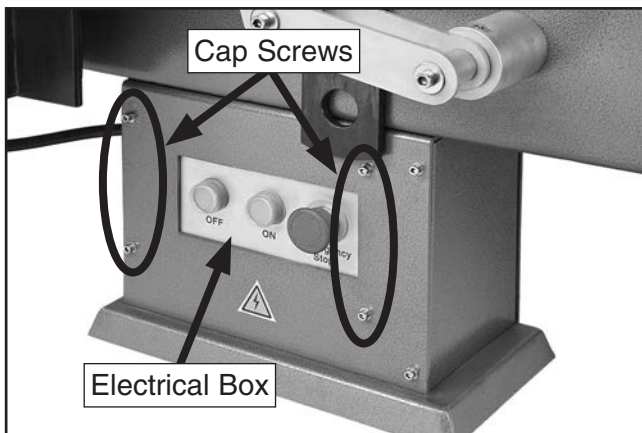

Figure 7. Location of cap screws that secure electrical box.
4. Remove the four cap screws that secure electrical box inside column (see **Figure 7**).